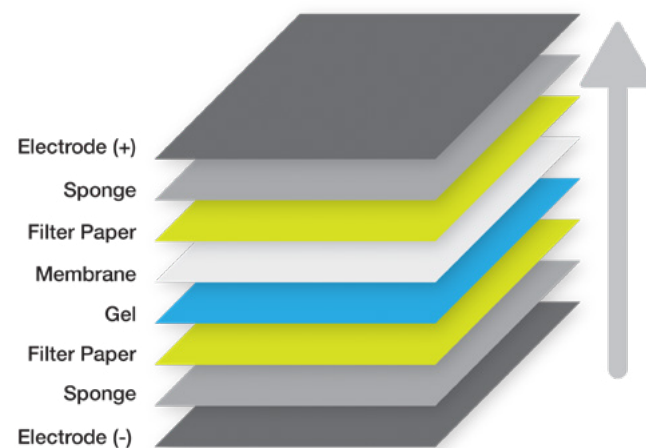

Figure 1 Scheme of transfer sandwich assembly.
2. Assemble the transfer sandwich according to scheme presented in Figure 1.